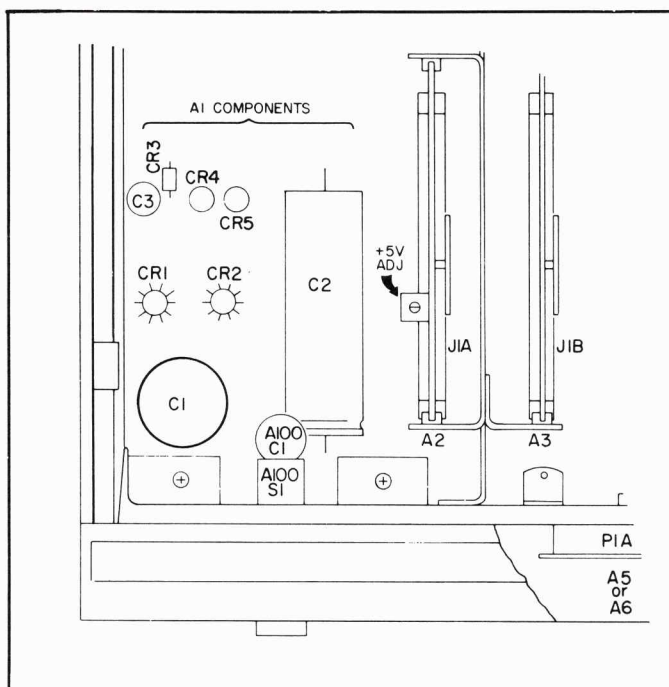

Figure 5-1. Five (5) Volt Adjustment.
- c. Adjust A2R1 to give a reading on the voltmeter of + 5 V  $\pm$  3%. This adjustment screw is shown in Figure 5-1.